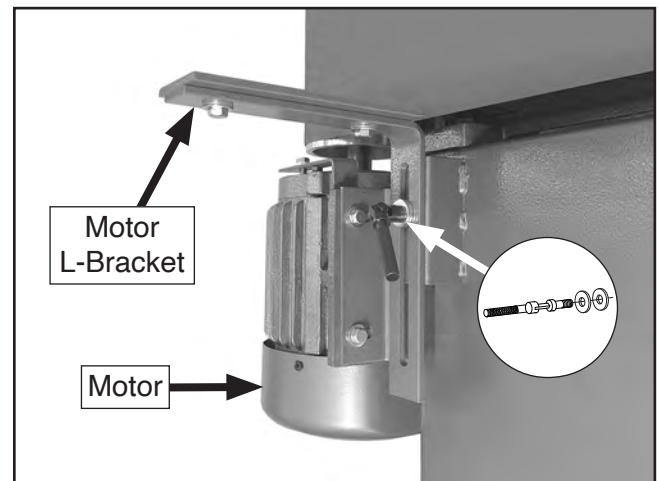

Figure 24. Motor L-bracket installed.
4. Attach motor L-bracket to rear of stand on side closest to motor with table lock handle and (2) $\frac{3}{8}$ " flat washers, as shown in **Figure 24**.